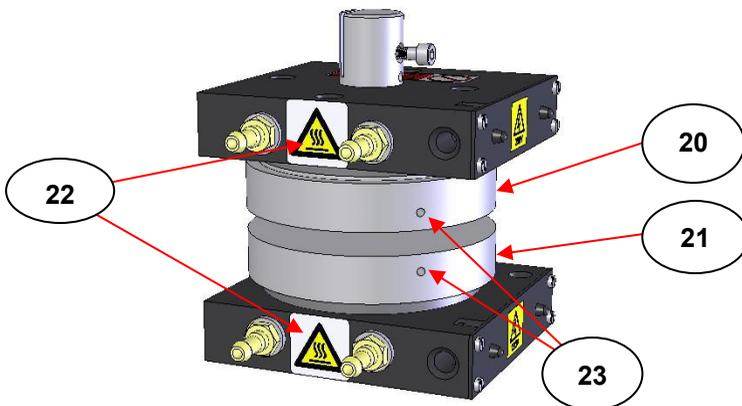

Fig 11. Hot Warning Labels and Additional Thermocouple Holes
There are label “HOT WARNING” labels (22) on the Atlas™ Heated Platens. (See Fig 11.) The circular aluminium heated surfaces (20) and (21) of the heated platens are the hottest parts, so take care during operation not to touch these surfaces. They may be at a temperature capable of causing severe burns.
For critical temperature measurements, there are additional thermocouple location holes (23) on the sides of the heated surfaces (20) and (21). (See Fig 11.) An additional K-type thermocouple with an independent temperature monitoring system may be used by insertion of the thermocouple tip into the relevant location hole (23).